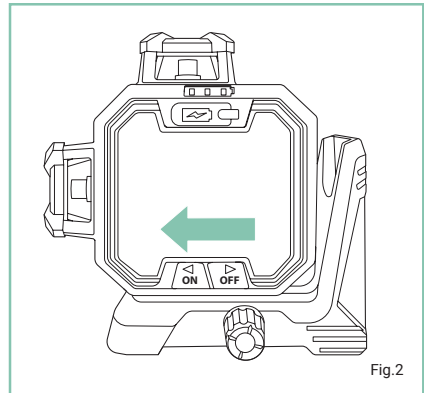
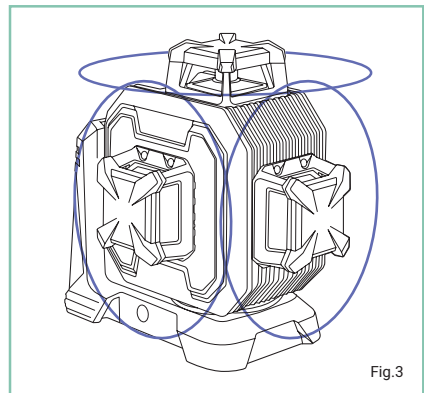

Fig. 2
Fig. 3
- To turn the laser level on, slide the **power / locking switch** to the "unlocked" position (Fig. 2). Self levelling will commence and all the beams will activate (Fig. 3).